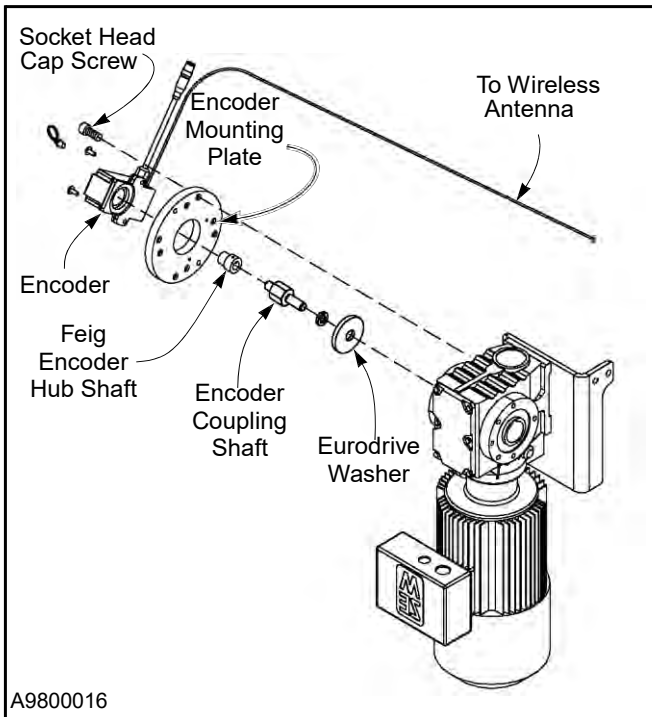

Figure 18
6. Install a plastic zip tie into the socket head screw and secure the encoder cable. (See Figure 18)